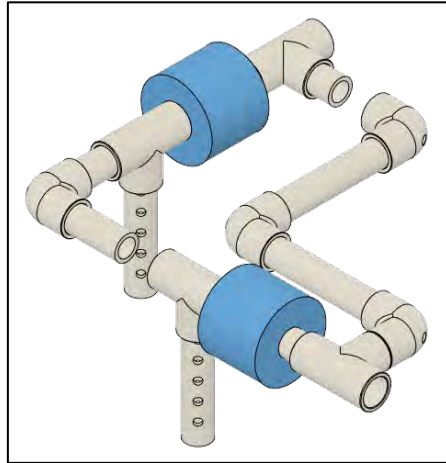

Figure 33
- Connect the rear and left-side frame section from the previous step to the right-side frame section. (Figure 33 & 34)